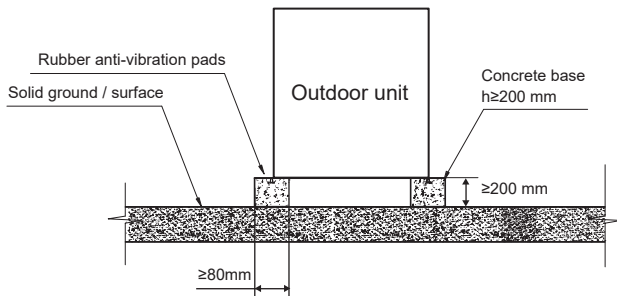

Fig. 4-3 Front view of base structure
- 4) A typical concrete base design is shown in Fig. 4-3. A typical concrete specification is 1 part cement, 2 parts sand and 4 parts crushed stone with steel reinforcing bar. The edges of the base should be chamfered.